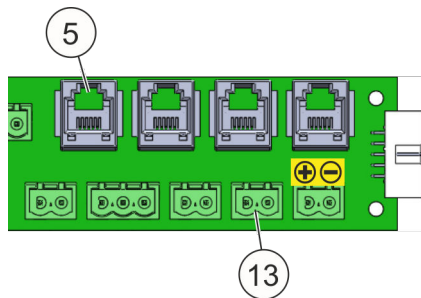
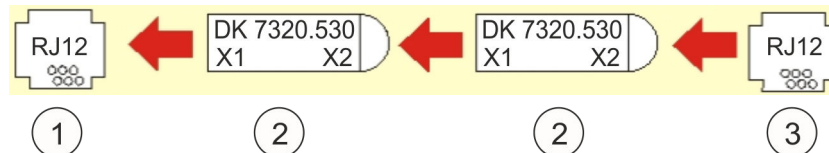

Fig. 41: Connections door contact switch
Fig. 42: Installation diagram for the door contact switch "RJ12 plug" (access sensor)
The door contact input "5" (Fig. 41 /5) is designed for switch type Rittal 7320.530 (Fig. 43 /2 or 3). Connect door contact switches of variant "RJ12 plug" to the door contact input "5". Make the connection as per Fig. 42 and Fig. 43 .
- 1 Door contact input "5" (Fig. 41 /5)
The pre-mounted terminating resistor (Fig. 41 /13) must be removed when using the switch "Rittal 7320.530".